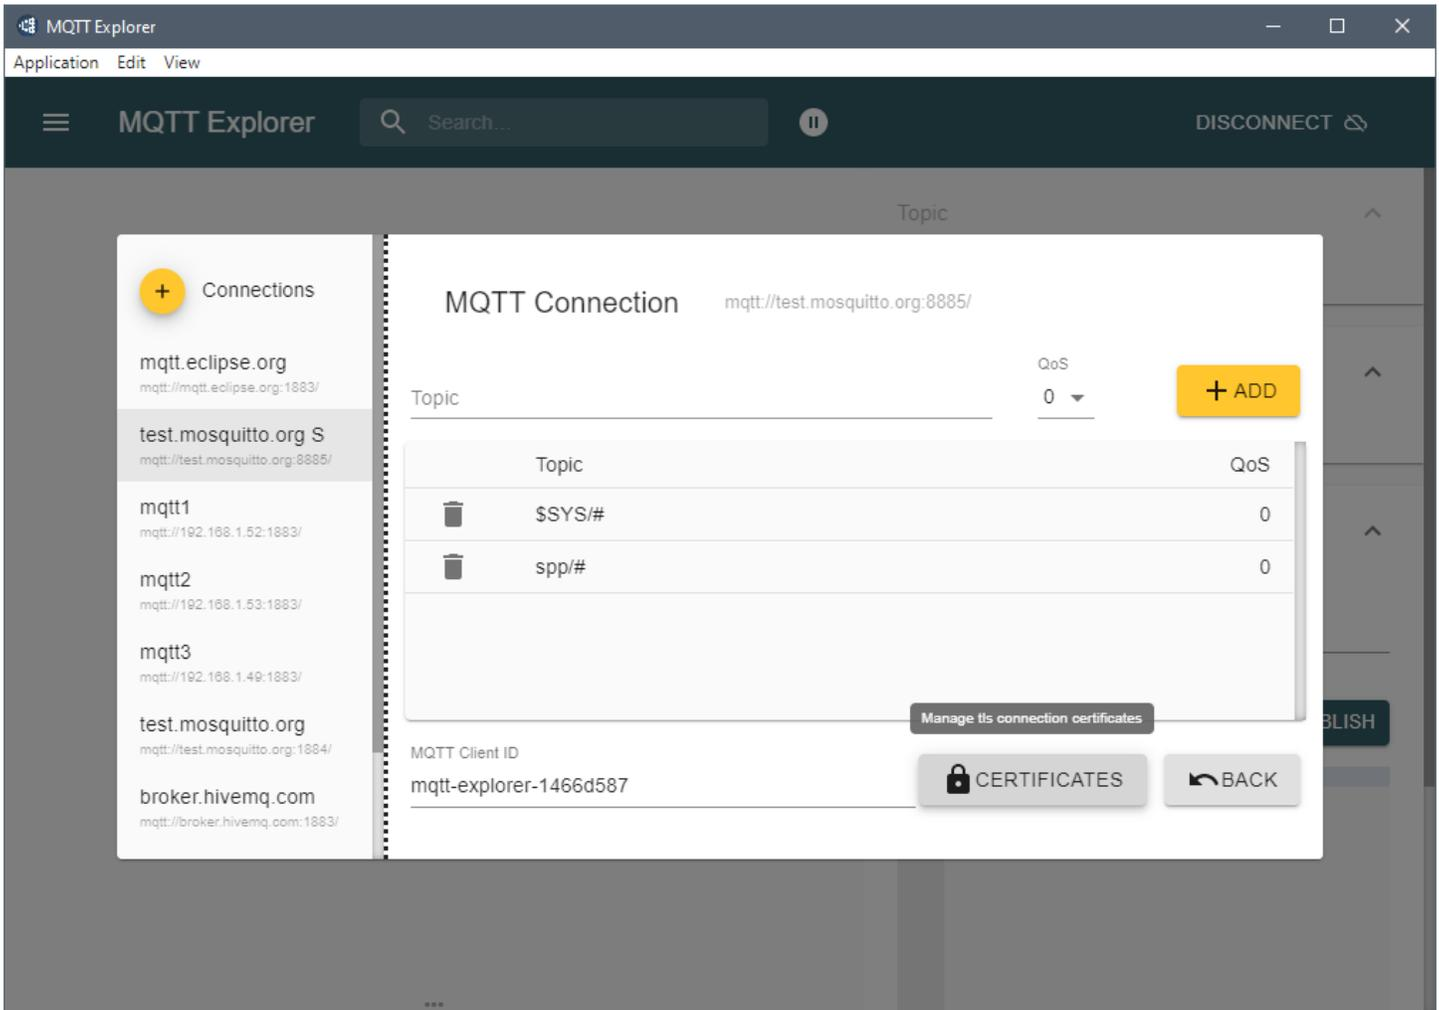

FIGURE 6-15: MQTT CONNECTION SCREEN SHOWING CERTIFICATES BUTTON.
7. Click on the **Certificates** button. Figure 6-15 shows the screen with this button.